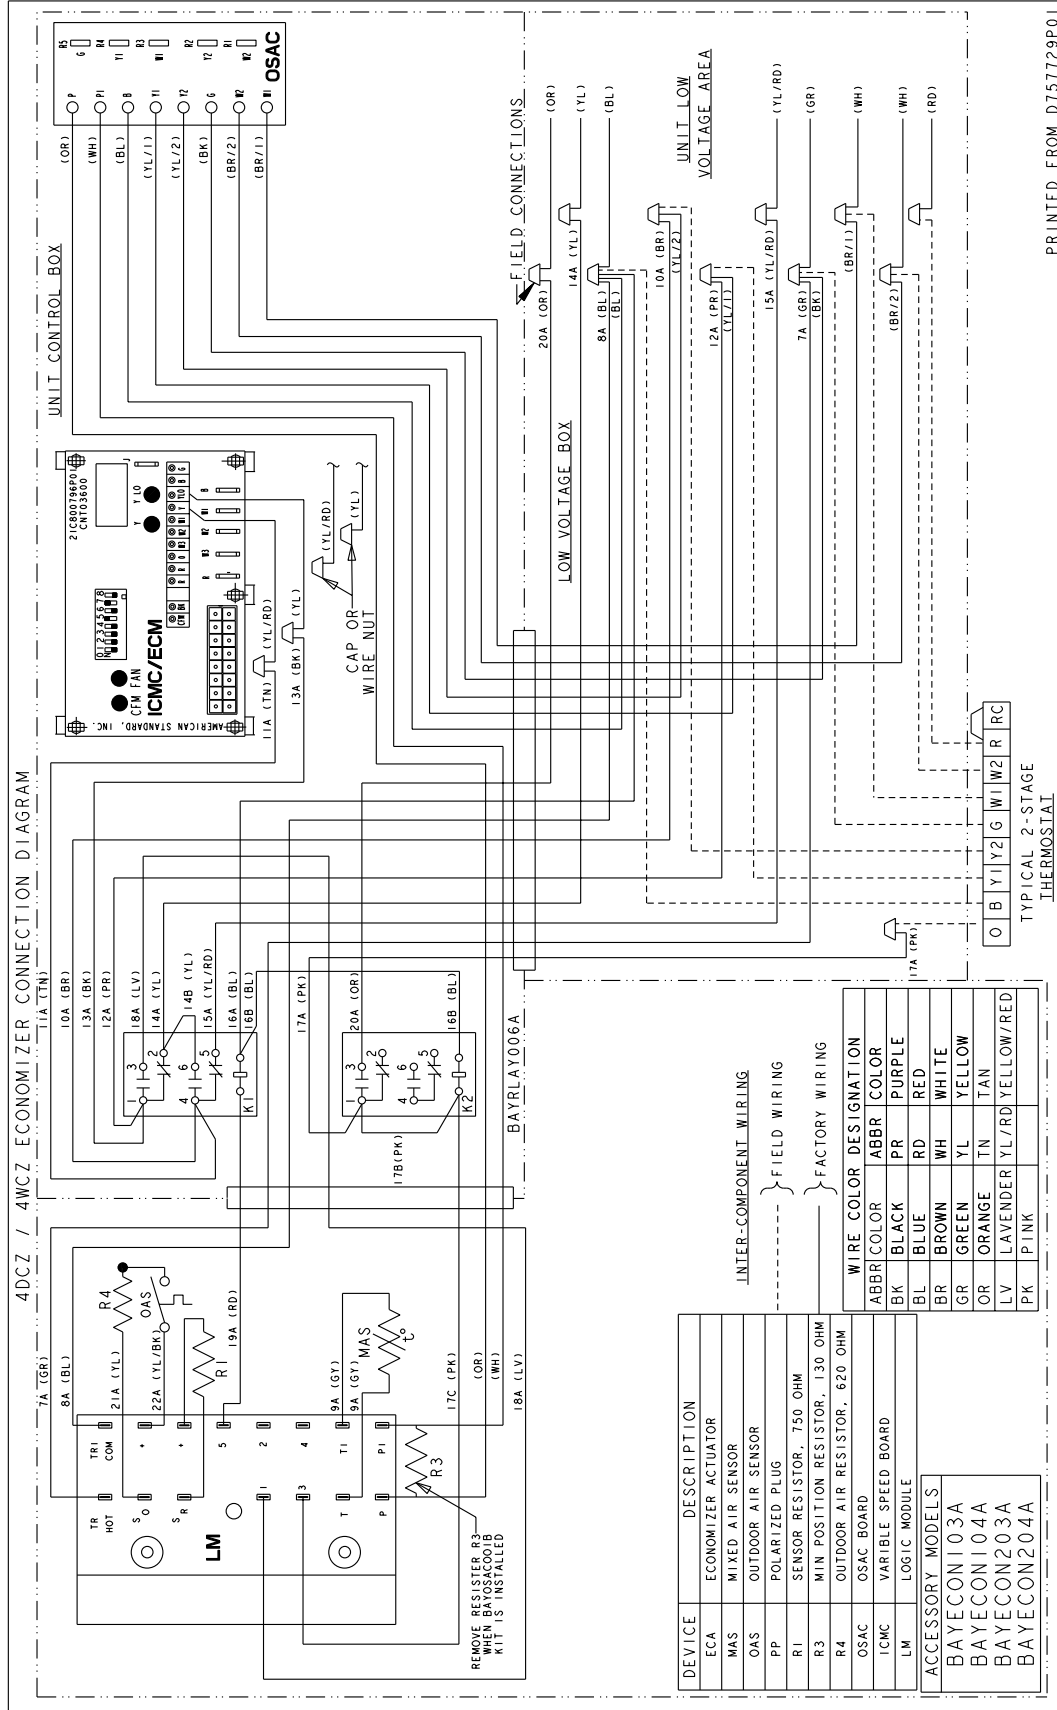

Figure 7. *WCZ & *DCZ Economizer Connection Diagram
When the economizer is installed in *WCZ & *DCZ models, relay accessory kit BAYRLAY006A is required. Refer to Figure 7 on page 7 to make your relay wiring connections in the Control Box.
5. Connect the BAYRLAY006A to the economizer Logic Module and make the field connections as shown in Figure 7 on page 7.